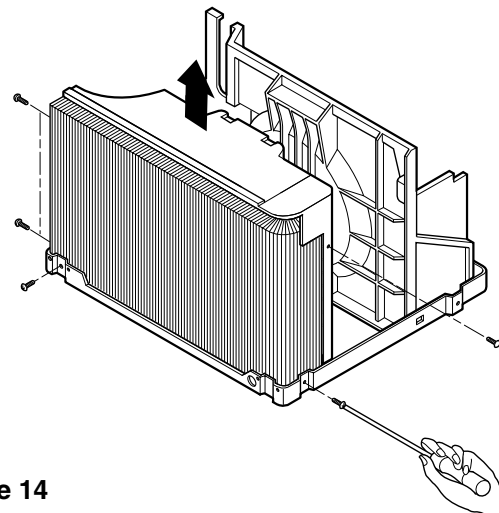

Figure 14
6. Re-install the components by referring to notes. (See Figure 14)